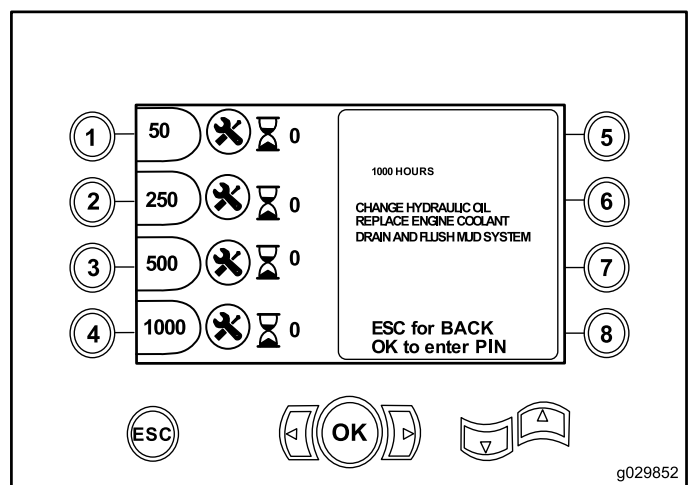

Figure 14
- Button 4—1,000-hour maintenance schedule (Figure 14)